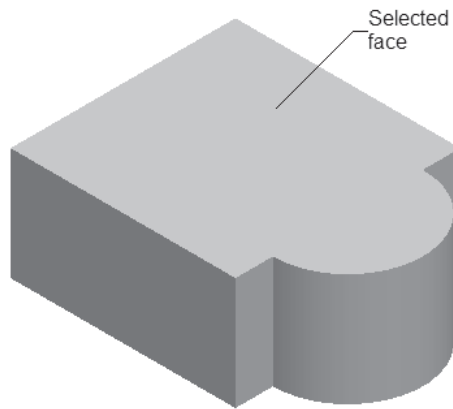

Figure 8-34 Face selected to shell
2. Select the top face of the model to remove it, as shown in Figure 8-34. The selected face will be removed from the model, leaving the specified thickness from the boundary of the selected face.